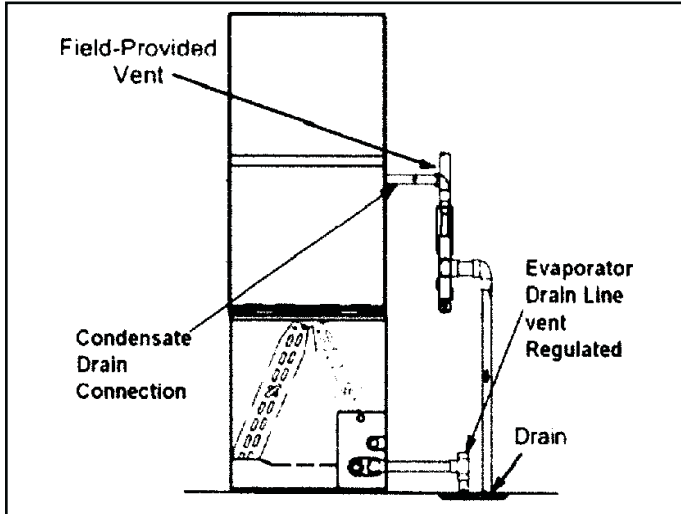

Figure 36. Evaporator Coil Using a Separate Drain
5. Figure 36 shows the furnace and evaporator coil using a separate drain. If necessary the condensate line from the furnace and evaporator coil can drain together. See Figure 37. The field provided vent must be minimum 1" to a maximum 2" length above the condensate drain outlet connection.